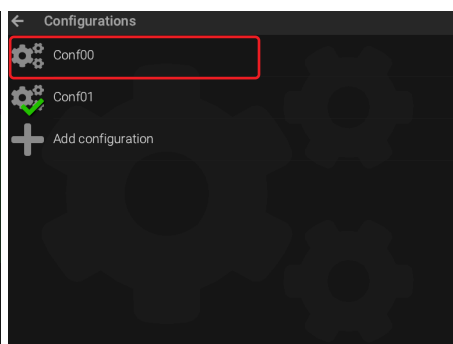

Fig. 29
- Press the configuration to be selected (Fig. 29).